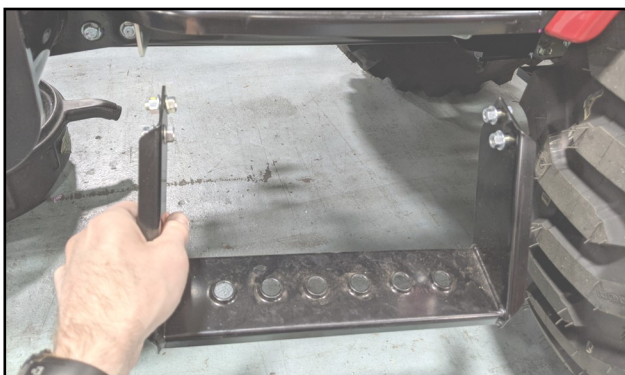

Fig. 1.9 (Remove And Save Step)
- 1.9 If installed, remove left side step and save all hardware for re-installation later. See Figure 1.9.